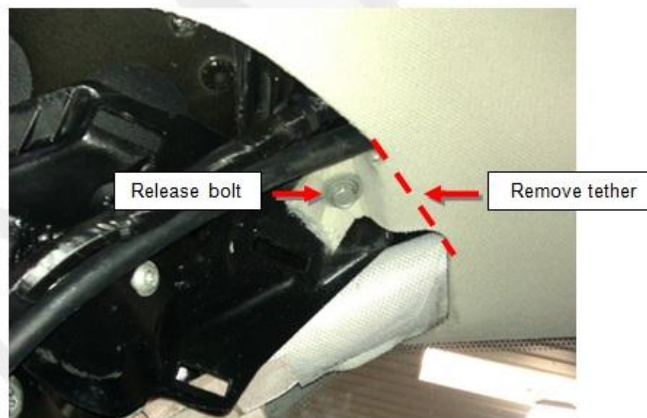

Figure 11
- It might be bolted to the body (Figure 11). In this case, cut off the tethers and discard the bolt upon reinstallation.